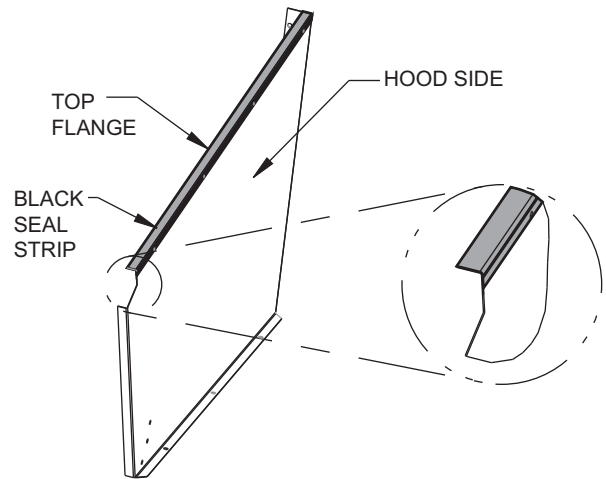

Fig. 19 — Adding Seal Strip to Top of Hood Sides
1. Apply black seal strip (provided) to outside top-edge of hood sides. Wrap seal strip over edge to cover top flange (2 hood sides per hood assembly). Make sure seal strip covers screw holes. See Fig. 19.